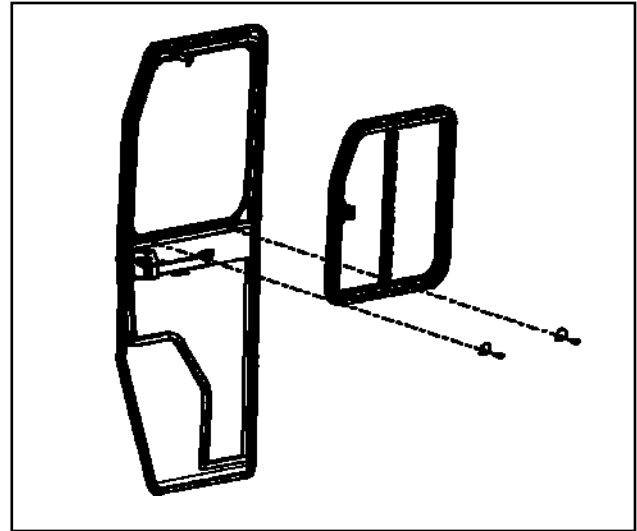

Fig. 16.1 Removable sliding windows
16.1 The doors are packaged with the removable sliding windows installed. Per Figure 16.1, remove the sliding windows to ease assembly. To do so, loosen the thumb screws at the bottom of the sliding window.